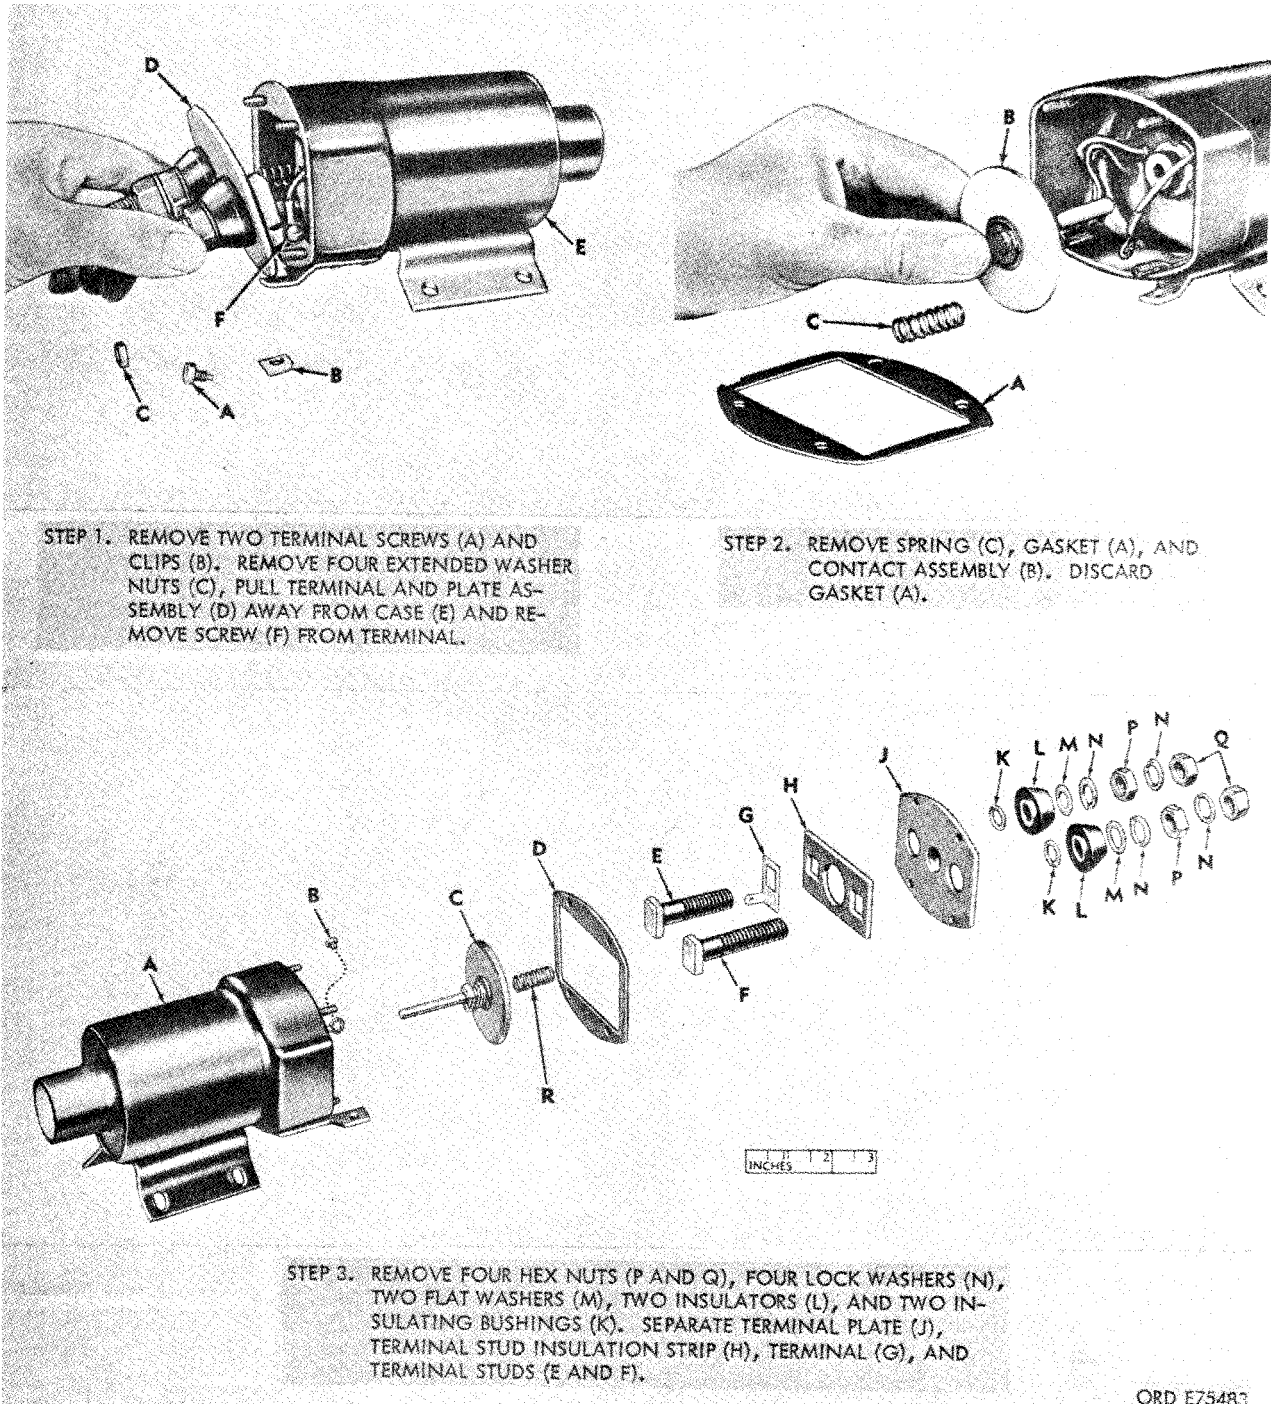
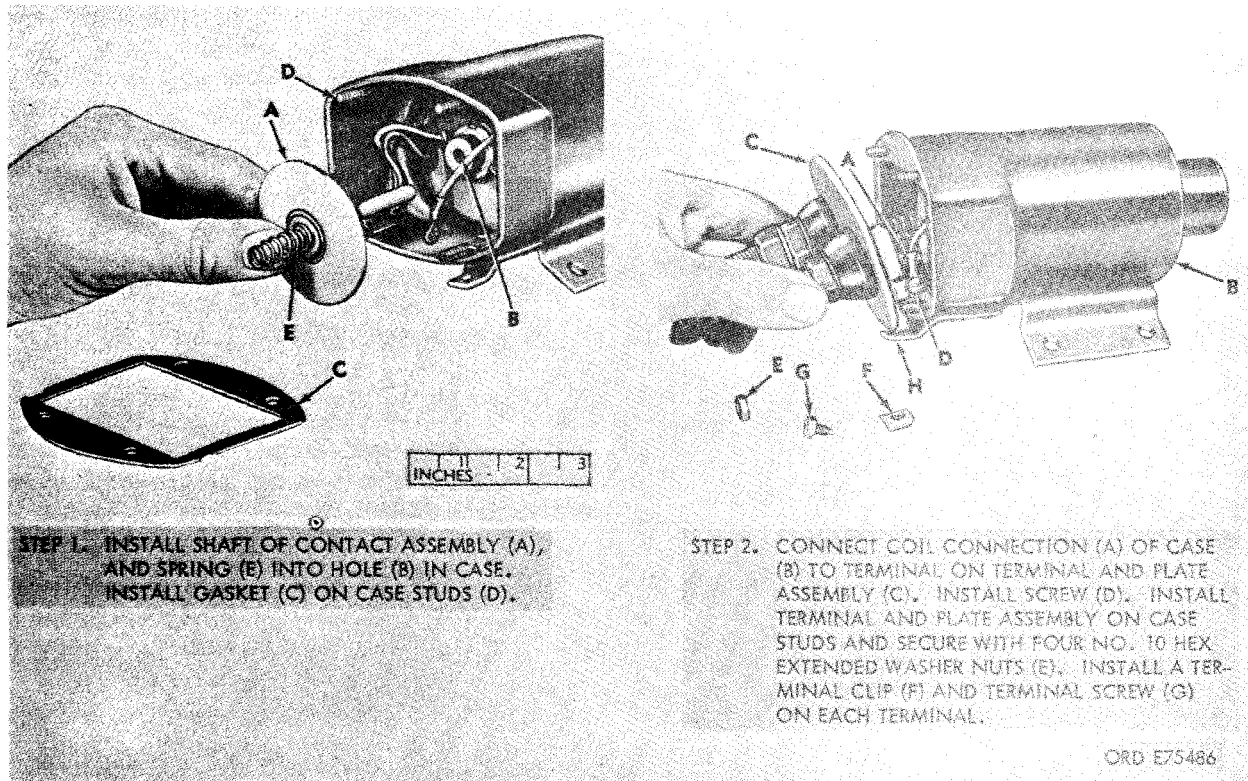

Figure 55. Disassembling solenoid relay.
Figure 58. Assembling solenoid relay.
Refer to figure 55 and disassemble the solenoid relay.
*Note.* The key letters shown below in parentheses refer to figure 55, step 3, except where otherwise indicated.
*a.* Install terminal (G) on motor terminal stud (E) (short stud). Install motor terminal stud, battery terminal stud (F), terminal stud insulation strip (H), and terminal plate (J) with motor terminal stud in plate marked MOTOR. Install one insulating bushing (K), one insulator (L), one 0.516 ID., 7/8 OD., 1/32 thick flat washer (M), 1/2-inch lockwasher (N), 1/2-inch, 0.312 thick hex nut (P), 1/2-inch lockwasher (N) and 1/2-inch, 0.438 thick hex nut (Q) on each terminal stud.
*b.* Refer to figure 58 and complete assembly of solenoid relay.